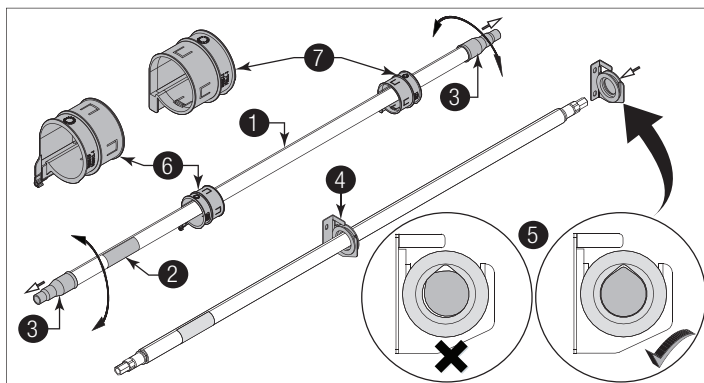

Figure 37
**See Figure 37 for the following steps.**
**NOTE:** If ratchet wheel falls out of end bracket, refer to Figure 37 for proper insertion orientation.